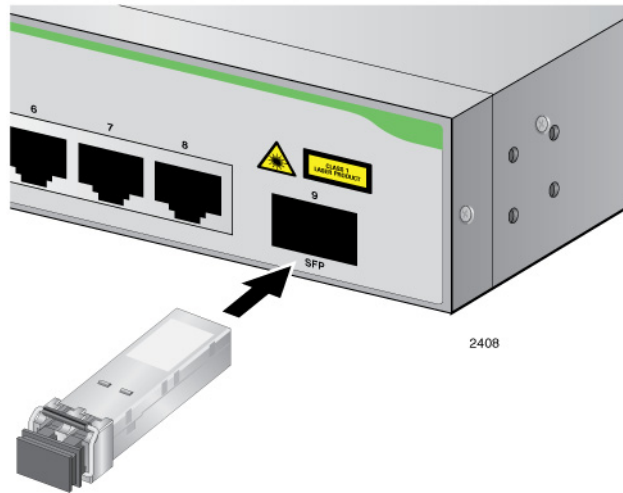

Figure 12. Inserting the SFP
4. With the handle on the transceiver oriented towards the top of the switch, slide the transceiver into the SFP slot until it clicks into place. See Figure 12